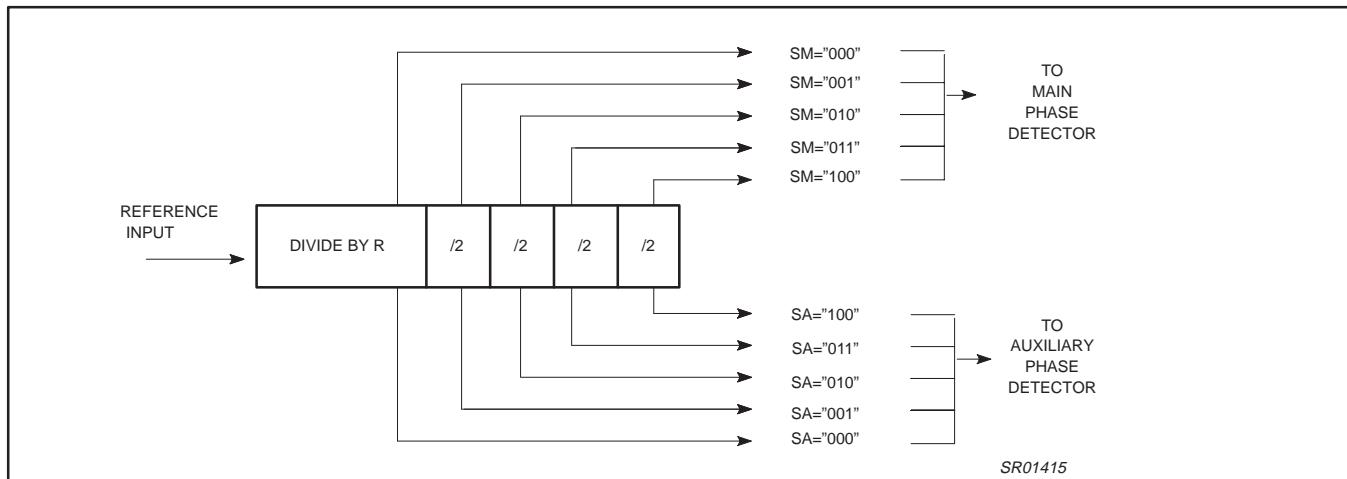

Figure 6. Reference Divider
The reference divider consists of a divider with programmable values between 4 and 1023 followed by a three bit binary counter. The 3 bit SM (SA) register (see Figure 6) determines which one of the 5 output pulses are selected as the main (auxiliary) phase detector input, thus allowing the main PFD and auxiliary PFD to operate at different frequencies.